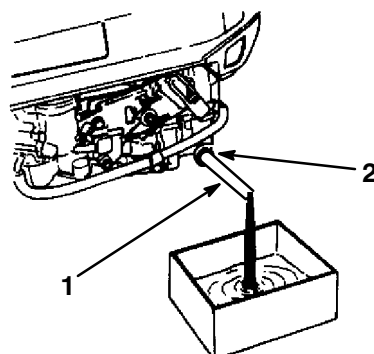

Figure 23
5. Raise the left side of the lawn mower at least 12 inches (30 cm) and open the side oil drain plug (Fig. 23).
6. Insert the oil drain tube over the drain plug and lower the lawn mower (Fig. 23).